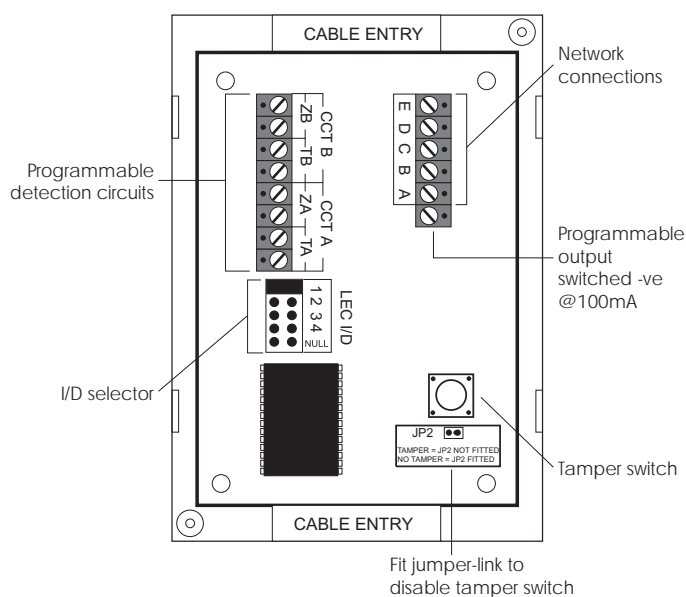

Figure 8. TS700 Remote Arming Keypad Layout
- If the LEC is being fitted inside the control panel you may remove the LEC PCB from its base and secure it to base of the control panel using self adhesive feet. If required, the tamper switch may also be disabled by fitting the jumper link across JP2, see Figure 8.
- Connect "Remote Network" cables and detection circuit cables to the appropriate terminals, see Figure 8.